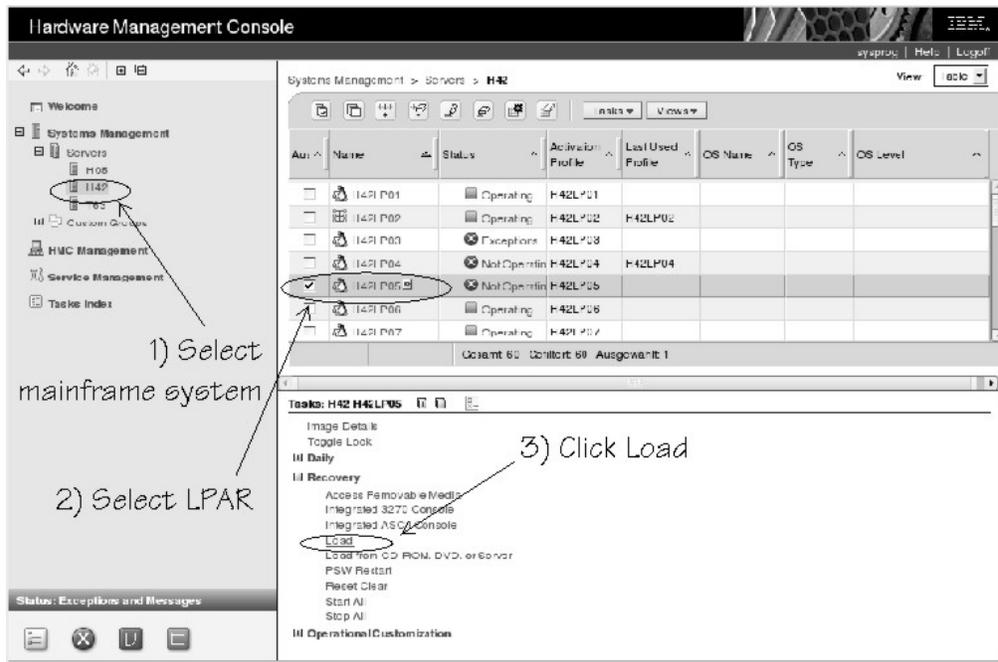

Figure 16. Load task on the HMC
3. In the **Tasks** area, expand **Recovery** and click **Load** (see Figure 16 on page 64).